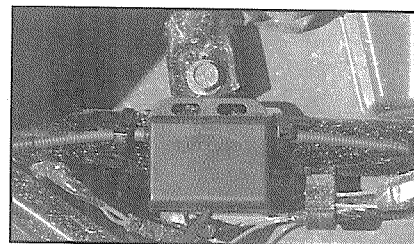

Figure 5
3. Find a location to mount antenna, i.e. to rack or frame (see Fig. 5).